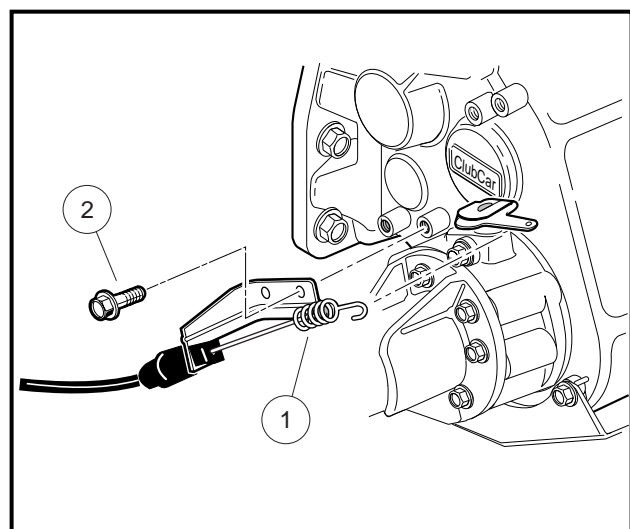

Figure 16-94 Differential Lock Bracket Installation
- 6.1. Connect the differential lock cable spring (1) to the differential lock arm on the differential lock housing (**Figure 16-94, Page 16-39**).
- 6.2. Install the two bolts (2) to secure the cable bracket to the transaxle case (**Figure 16-94, Page 16-39**). Tighten the two screws to 134 in-lb (15.1 N-m).